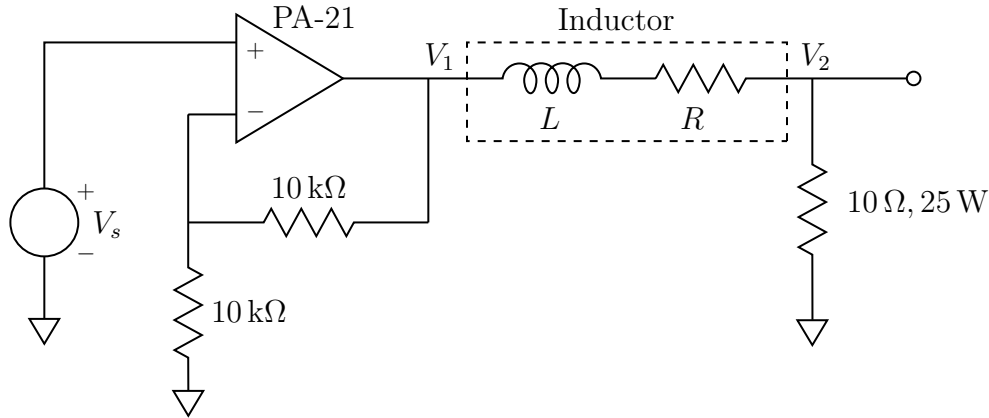

Figure 3: Amplifier with inductive load.
2. **Inductive load, voltage drive:** Now we will use the amplifier to drive an inductive load in voltage mode as shown in Fig. 3. Each station has an inductor which has been constructed from a small power transformer. Please keep each device at its original station. Do not move
As a start, use the multimeter to measure the coil resistance of your inductor. Also measure the resistance of the 25W power resistor you used in the previous section. These resistances become part of a model for the coil shown in Fig. 3. To complete the model, we need to measure the coil inductance. This can be done by measuring the step response from V_1 to V_2 . The time constant of this response, in combination with the resistances measured earlier yields an estimate of the coil inductance L . Measure the step response for a 0.1 A step on top of a 0 A bias and on top of a 0.5 A bias. Use the DC offset control on the signal generator to set the bias current level to the desired value. What estimate of L do you get at the two bias levels?